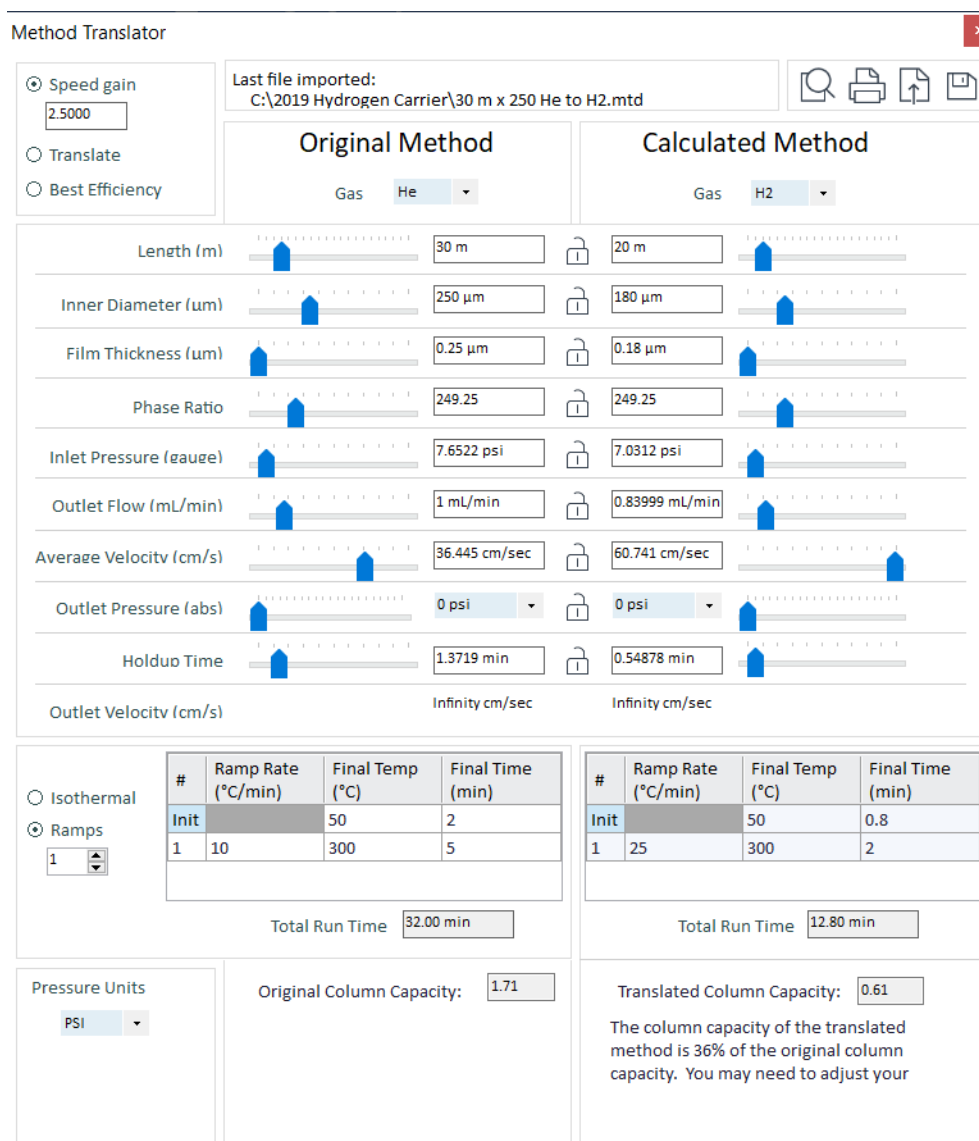

Figure 11. Translation of the method to a 20 m × 0.18 mm id column with hydrogen carrier gas with a 2.5x gain in speed.
**Figure 11** shows the translation of the method to a 20 m × 0.18 mm id column with hydrogen carrier gas with a 2.5x gain in speed.